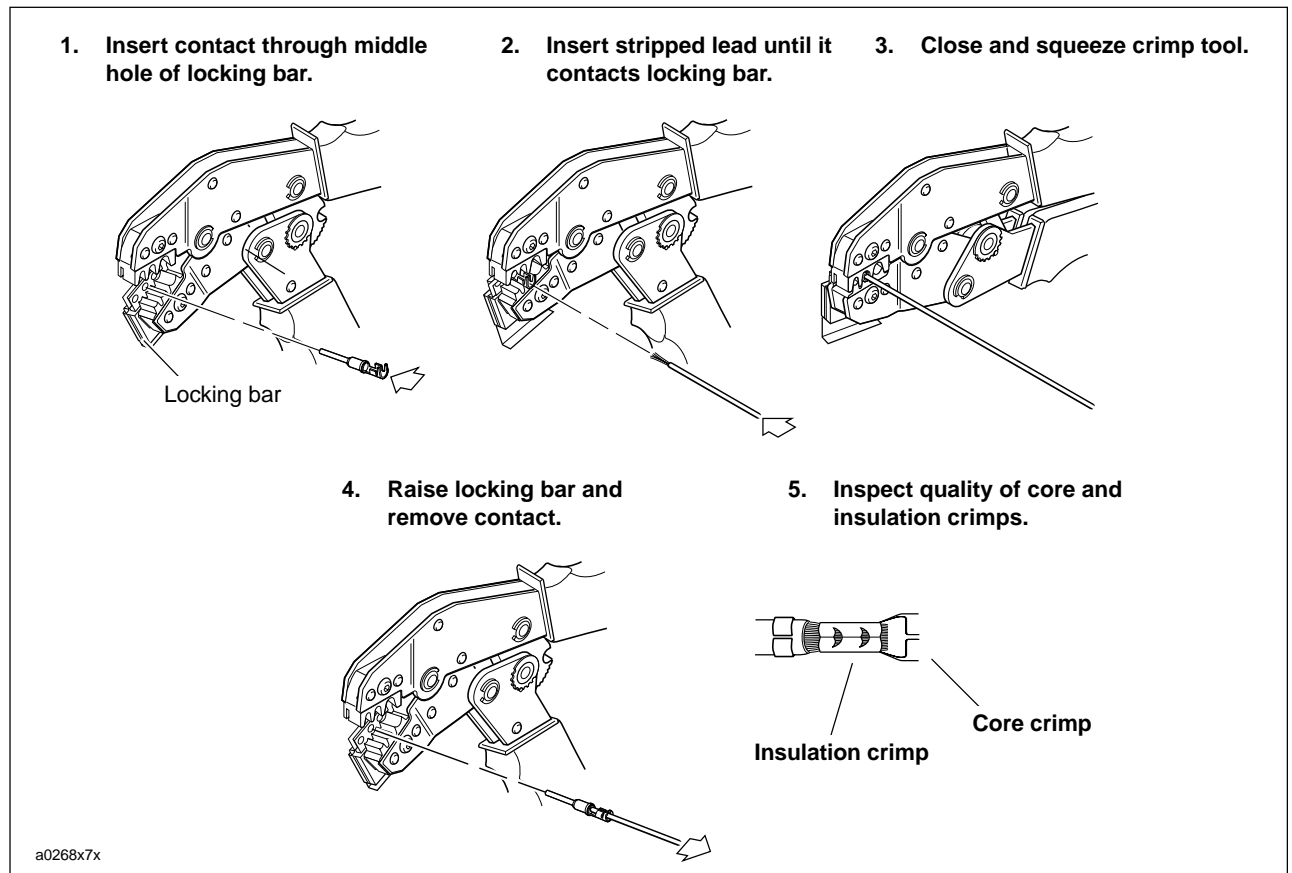

Figure B-3. Deutsch Crimping Procedure
1. See Figure B-3. Squeeze the handles to cycle the *DEUTSCH TERMINAL CRIMP TOOL* (Part No. HD-39965) to the fully open position.